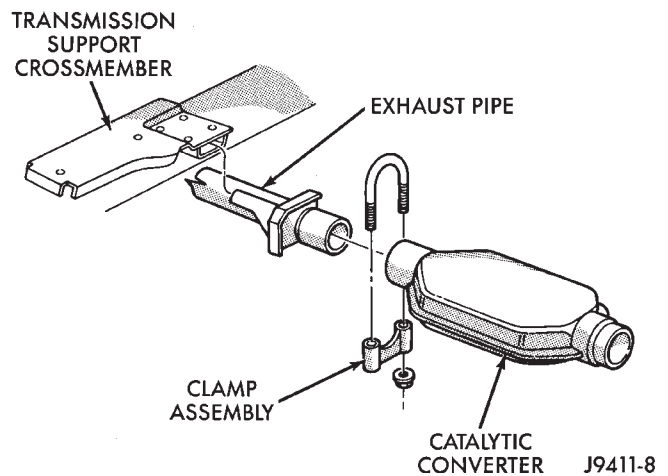
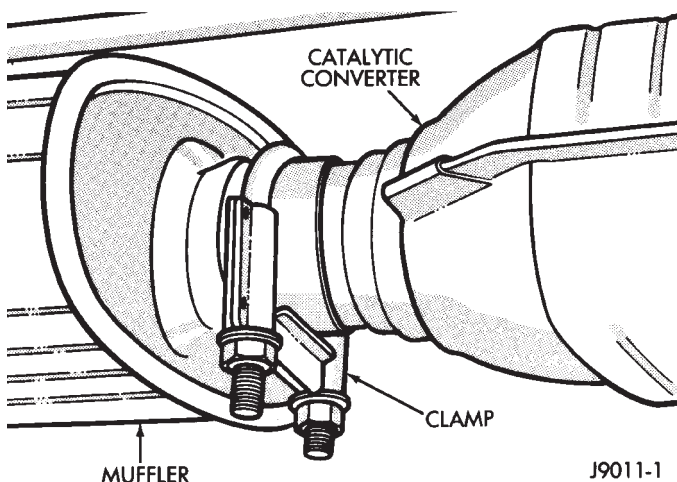
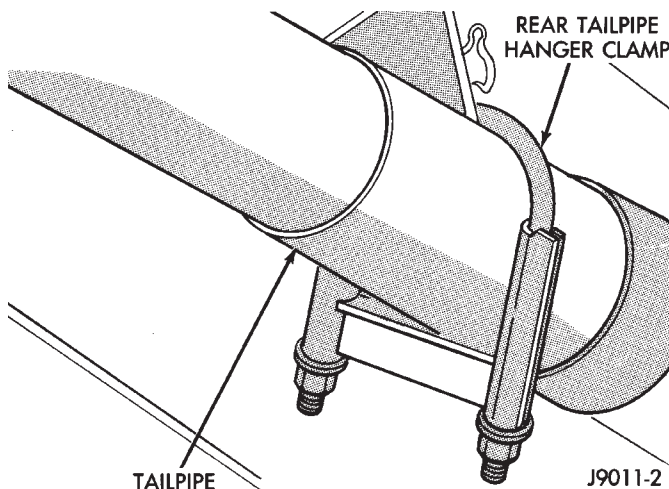
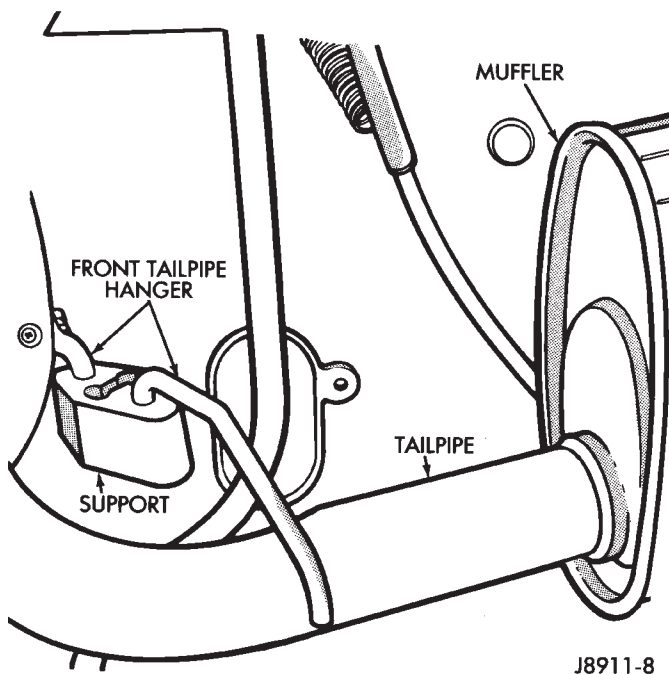

Fig. 3 Exhaust Pipe-to-Catalytic Converter Connection
Fig. 6 Catalytic Converter-to-Muffler Connection
Fig. 7 Rear Exhaust Tailpipe Hanger Clamp
Fig. 8 Front Exhaust Tailpipe Hanger
- (5) Support the transmission and remove the rear crossmember.
- (6) Remove the clamp nuts and clamp (Fig. 3). To remove the exhaust pipe from the catalytic converter, apply heat until the metal becomes cherry red. Disconnect the exhaust pipe from the catalytic converter (Fig. 3). Remove the exhaust pipe.
(1) Raise and support the vehicle.
(2) Remove the clamp from the catalytic converter and muffler connection (Fig. 6).
(3) Heat the catalytic converter and muffler connection with an oxyacetylene torch until the metal becomes cherry red.
(4) While the metal is still cherry red, twist the muffler assembly back and forth to separate it from the catalytic converter.
(5) Disconnect the exhaust pipe from the catalytic converter (Figs. 3 and 5). If needed, heat up the pipes to separate.
(1) Connect the catalytic converter to the exhaust pipe (Figs. 3 and 5). Use a new clamp and tighten the nuts to 61 N·m (45 ft. lbs.) torque.
(2) Install the muffler onto the catalytic converter until the alignment tab is inserted into the alignment slot.
(3) Install a new clamp at the muffler and catalytic converter connection (Fig. 6). Tighten the clamp nuts to 61 N·m (45 ft. lbs.) torque.
(4) Lower the vehicle.
(5) Start the engine and inspect for exhaust leaks and exhaust system contact with the body panels. Adjust the alignment, if needed.
(2) Remove the front muffler clamp from the catalytic converter and muffler connection (Fig. 6).
(3) Remove the rear exhaust tailpipe hanger clamp (Fig. 7) and remove the exhaust tailpipe from the front exhaust tailpipe hanger (Fig. 8).
- (1) Install the muffler onto the catalytic converter. Install the clamp and tighten the nuts finger tight.
- (2) Install the exhaust tailpipe into the rear of the muffler.
- (3) Install the exhaust tailpipe/muffler assembly on the rear exhaust tailpipe hanger. Make sure that the exhaust tailpipe has sufficient clearance from the floor pan.
- (4) Install the remaining clamps and the front exhaust tailpipe hanger.
- (5) Tighten the nuts on the muffler-to-catalytic converter clamp to 61 N·m (45 ft. lbs.) torque (Fig. 6). Tighten the nuts on the rear exhaust tailpipe clamp to 14 N·m (10 ft. lbs.) torque (Fig. 7).
- (6) Lower the vehicle.
- (7) Start the engine and inspect for exhaust leaks and exhaust system contact with the body panels. Adjust the alignment, if needed.
- (1) Raise the vehicle and support the rear of the vehicle by the side rails and allow the axle to hang free.
- (2) Remove the front muffler clamp from the catalytic converter and muffler connection (Fig. 6).